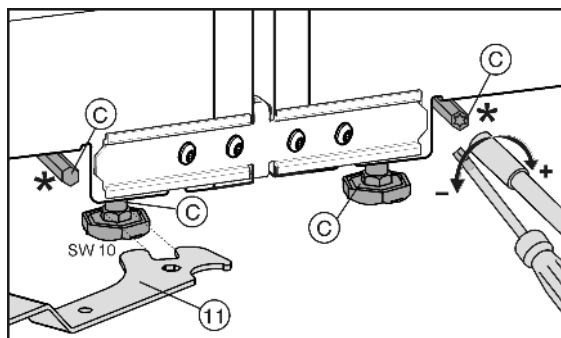

Fig. 8
You can adjust the front height-adjustable feet with the opened spanner *Fig. 8 (11)* included in the supply package, and the rear height-adjustable feet\* with a Torx® 25 screwdriver.